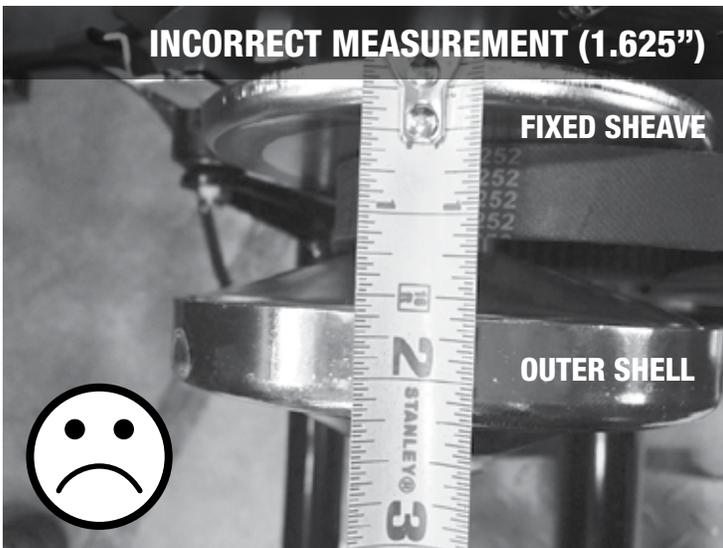

fig. 4
- Fig 4 – IF the distance measures 1 1/2", the pulley is set to the proper specification. Re-install the belt guard cover. No further action required.